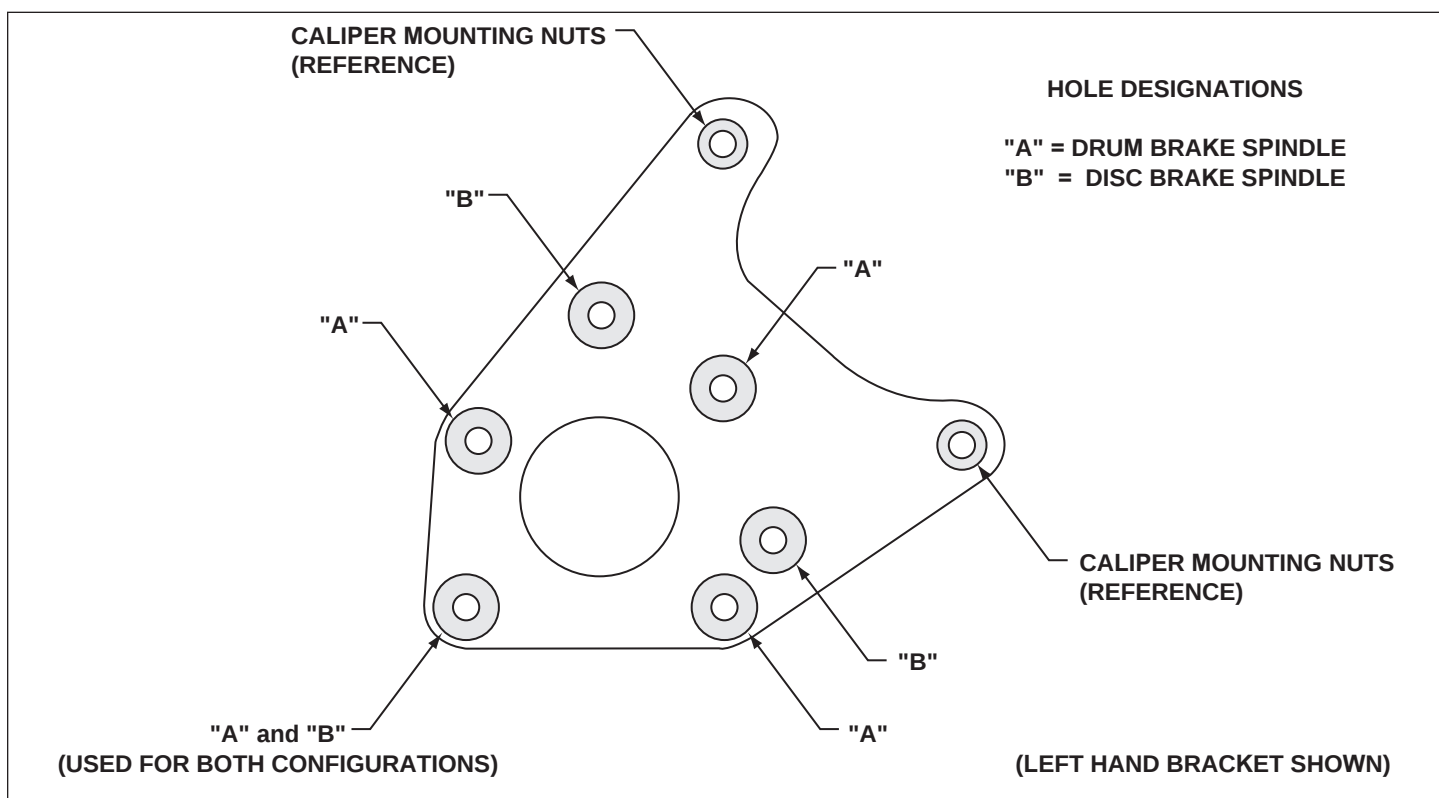
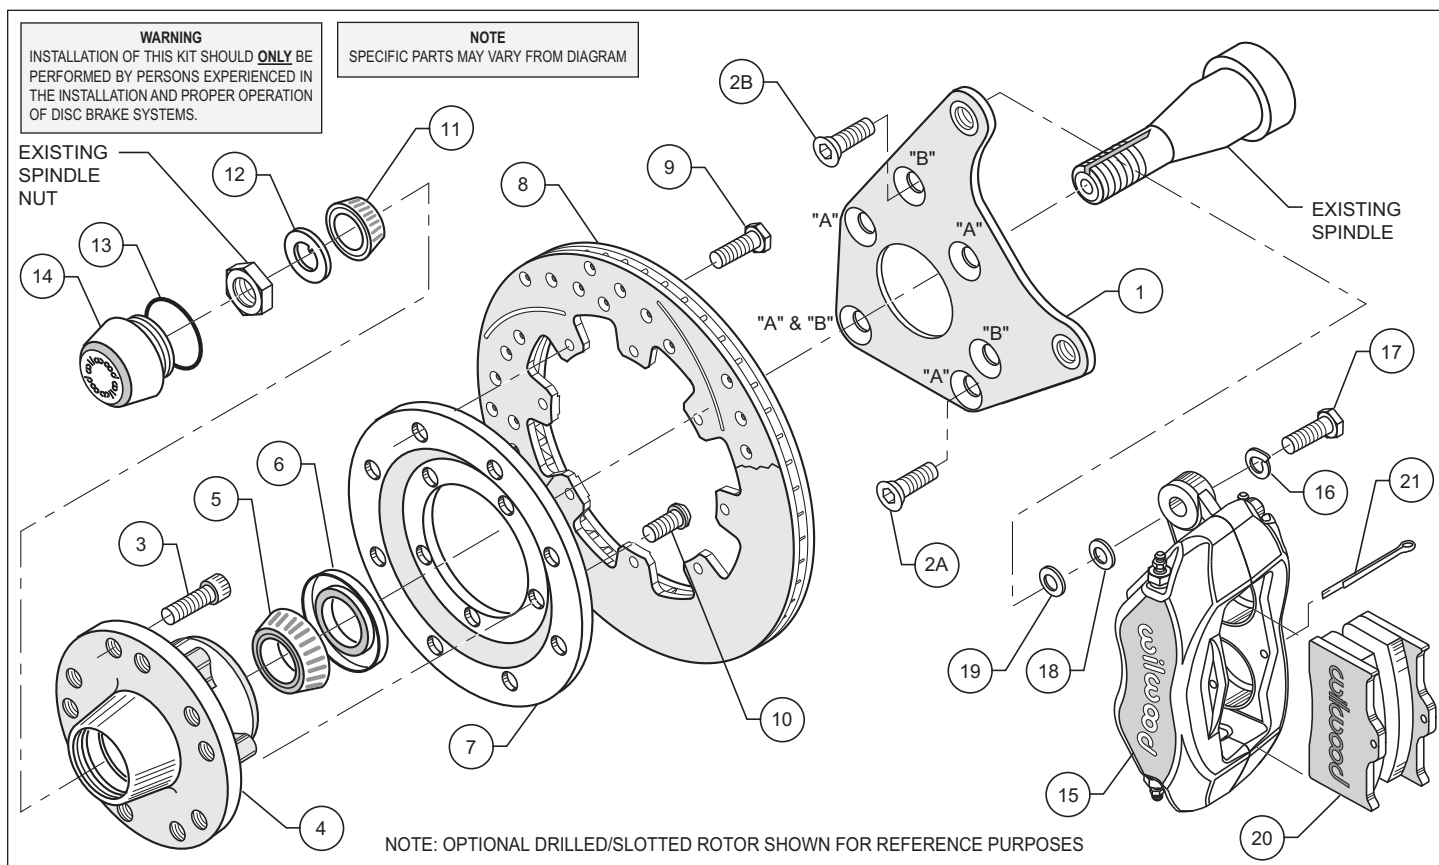
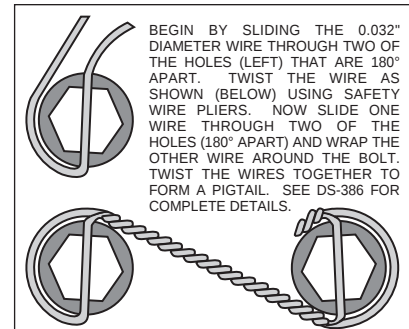

Figure 1. Wilwood Caliper Mounting Bracket
Figure 2. Typical Installation Configuration
Figure 4. Safety Wire Diagram
This kit has been designed for use with both the disc brake or the drum brake configuration of vehicle. The only difference is in how the Wilwood caliper mounting bracket is installed. The same bracket is used for both configurations; the disc brake version utilizes three mounting holes while the drum brake application uses four mounting holes (see Figure 1). For your convenience we have supplied bolt kits for both applications (see parts list and Figure 2 as necessary, item(s) 2A and 2B). Use the bolt kit that is applicable to your vehicle and disregard the other one.
These modifications should be performed by a qualified machinist and completed before assembly of the Wilwood disc brake kit begins. Using the caliper mounting bracket as a template (refer to figure 1 as necessary), locate and verify the three original stock holes on the steering arm that need to be modified. Drill a .332 diameter hole through all three holes, then tap 3/8-24 UNF (fine thread). Countersink the holes to .438 x 90°.
•As mentioned before, this kit uses the same mounting bracket (1) for both the drum and disc brake spindle. The drum version utilizes four mounting bolts (designated with a "A"), while the disc only requires three (designated with a "B"). Refer to figure 1 and figure 2 as required for the basic installation position of the bracket and the "A" and "B" reference designations (these designations are not physically marked on the bracket, they are referenced on the drawings for your convenience) and align using the three or four holes (as applicable) to the face plate of the steering arm. Install bolts (2A or 2B) through caliper mounting bracket (1) into steering arm, finger tighten only. After you are positive of the bracket (1) alignment, remove the mounting bolts (2A or 2B) one at a time and Apply red *Loctite*® 271 to bolt threads (2A or 2B), then reinstall. Torque bolts 2A or 2B to 30 ft-lb. **NOTE:** Be sure the heads of the bracket (1) insert nuts are facing outward toward the wheel.
•Install wheel studs (3) into the hub (4). Torque to 77 ft-lb. **NOTE:** There are two (2) five lug patterns in the hub (5 x 4.50 and 5 x 4.75). Make sure of the correct hole pattern for the correct wheel application before installing studs into hub.
•Pack the large inner bearing cone (5) with high temperature disc brake bearing grease (available from your local auto parts store) and install into the backside of the hub (4).
•Install the grease seal (6) by pressing into the backside of the hub (4).
•Attach rotor adapter plate (7) to rotor (8) using bolts (9). Torque bolts (9) to 180 in-lb. Safety wire bolts (9) using standard 0.032 inch diameter stainless steel safety wire as shown in Figure 4. Please refer to Wilwood's data sheet DS-386 (available at www.wilwood.com/pdf/ds386.pdf) for complete safety wire installation instructions. **NOTE:** Dished side of adapter plate (7) should face hub (4). The machined tab side of the iron rotor (8) should face the adapter plate (7).
•Mount the adapter/rotor assembly (7 and 8) to the hub (4) using bolts (10). Torque bolts (10) to 22 ft-lb. Safety wire bolts (10).
•Pack the small outer bearing cone (11) with high temperature disc brake bearing grease and install into front of hub (4). Slide the hub/rotor assembly (4 and 8) with outer bearing cone (11) onto the spindle. Secure using spindle washer (12), stock adjusting nut and nut locking device. Adjust bearings per Original Equipment Manufacturer (OEM) specifications.
•Install the o-ring (13) and then the dust cap (14) onto the hub (4). Friction created by the o-ring (13) on the dust cap (14) keeps it from unscrewing.
•**NOTE:** Please reference the caution statement at the beginning of the assembly instructions. With the bleed screws pointing up, mount the caliper (15) onto the caliper bracket (1) using lock washers (16) and bolts (17). Place two .063 thick flat washers (19) between the caliper (15) and the caliper mounting bracket (1) before sliding the mounting bolts (17) all the way into the caliper mounting bracket (1), finger tighten only. View the rotor (8) through the top opening of the caliper (15). The rotor (8) should be aligned in the center of the caliper (15). If not, adjust the caliper (15) by using 0.032 inch thick shims (18) placed between the caliper mounting bracket (1) and the caliper spacer washer (19). Finger tighten and recheck alignment. Use as many shim washers (18) as necessary to achieve the correct alignment. Apply red *Loctite*® 271 to bolt threads (17) and torque to 30 ft-lb. Safety wire caliper bolts (17).
•Install the disc brake pads (20) and secure using cotter pin (21).